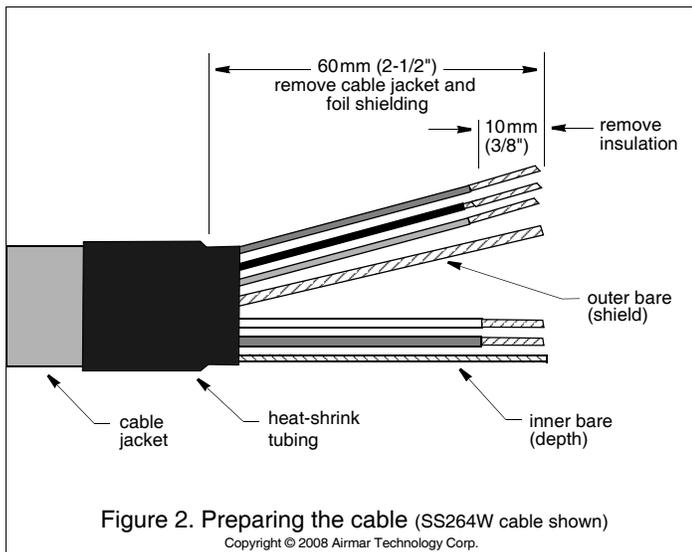

Figure 2. Preparing the cable (SS264W cable shown)
1. Strip 60mm (2-1/2") of the cable jacket and foil shielding from one end of the C2 cable (Figure 2).
3. Strip 60mm (2-1/2") of the cable jacket and foil shielding from the cut end of each cable (Figure 2).